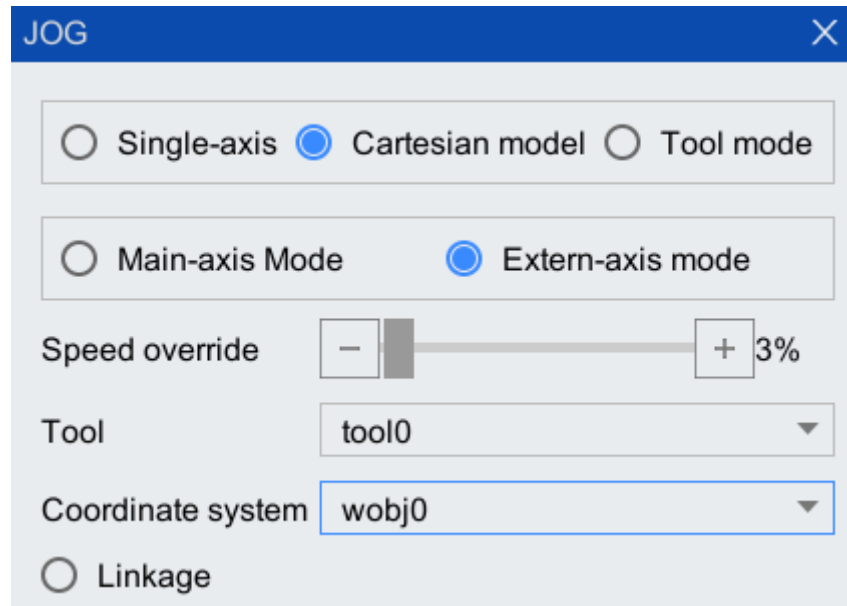

Figure 6-2 JOG interface
- Step 1. Click the "CONT 3%" icon in the upper left corner of the main interface, and the [JOG] operating parameter configuration interface will pop up. As shown in Figure 6-2.